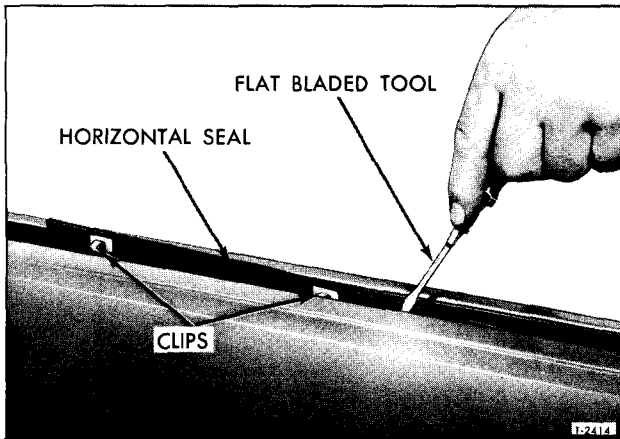

Figure 28—Removing Horizontal Seal
4. If desired, the horizontal seal strips can be replaced using a flat-bladed tool to pry strips from door as shown in figure 28.
2. Using a thin flat-bladed instrument, pry seals from door panel in manner shown in figure 28. Pry a small amount at each fastener to prevent seal channel distortion.